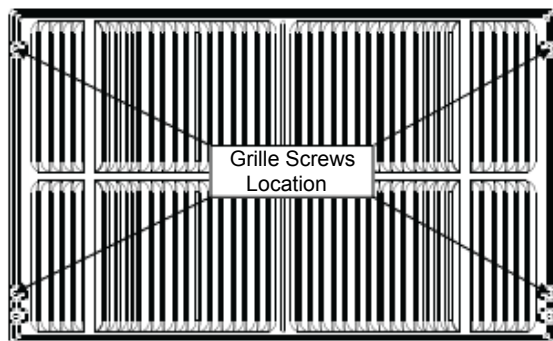
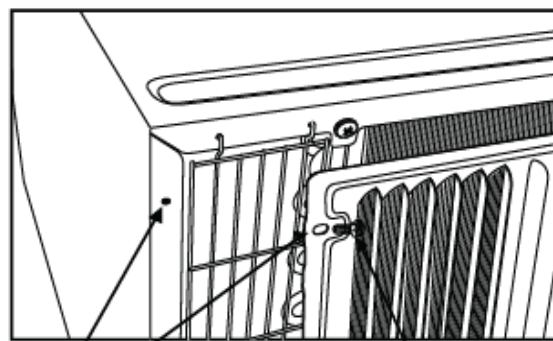

Fig. 2
Fig. 3
4. If the unit had not been pre-drilled (some models), carefully drill 4-1/8" holes through the grille and into the side flange of the unit approximately 1 1/2" to 2" from the top and bottom as in Fig. 2 and Fig. 3.